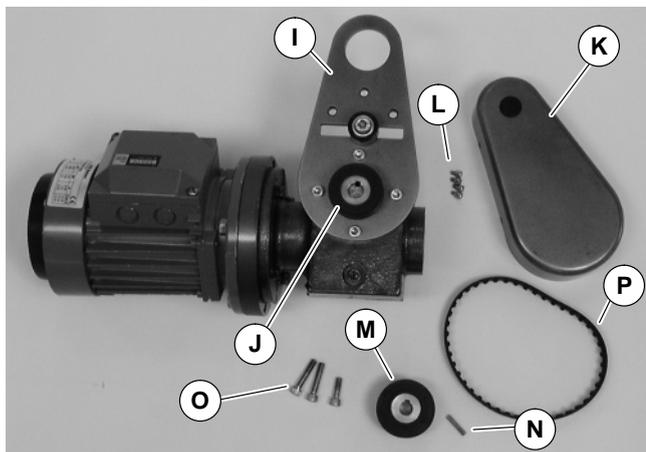

Figure 3
1. Typical components (Figure 3)
NOTE: Type 1 mounting package shown (Figure 3), Type 2 mounting package similar.